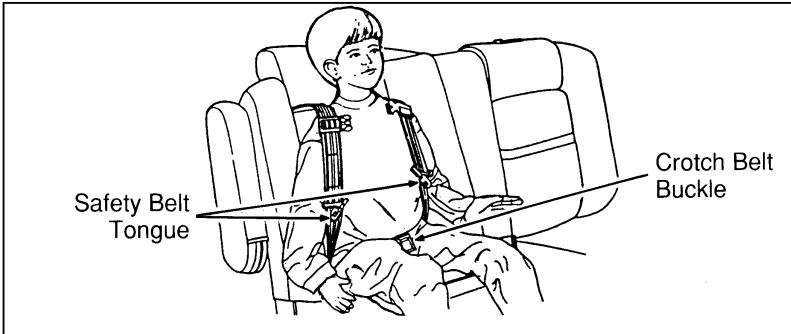

Figure 4: Shoulder safety belt placement on the child
5. Place the child on the child seat and position the shoulder belts over each shoulder. Refer to Figure 4.
- Slide the shoulder belts off the child's shoulders and remove the child. Refer back to Figure 4.